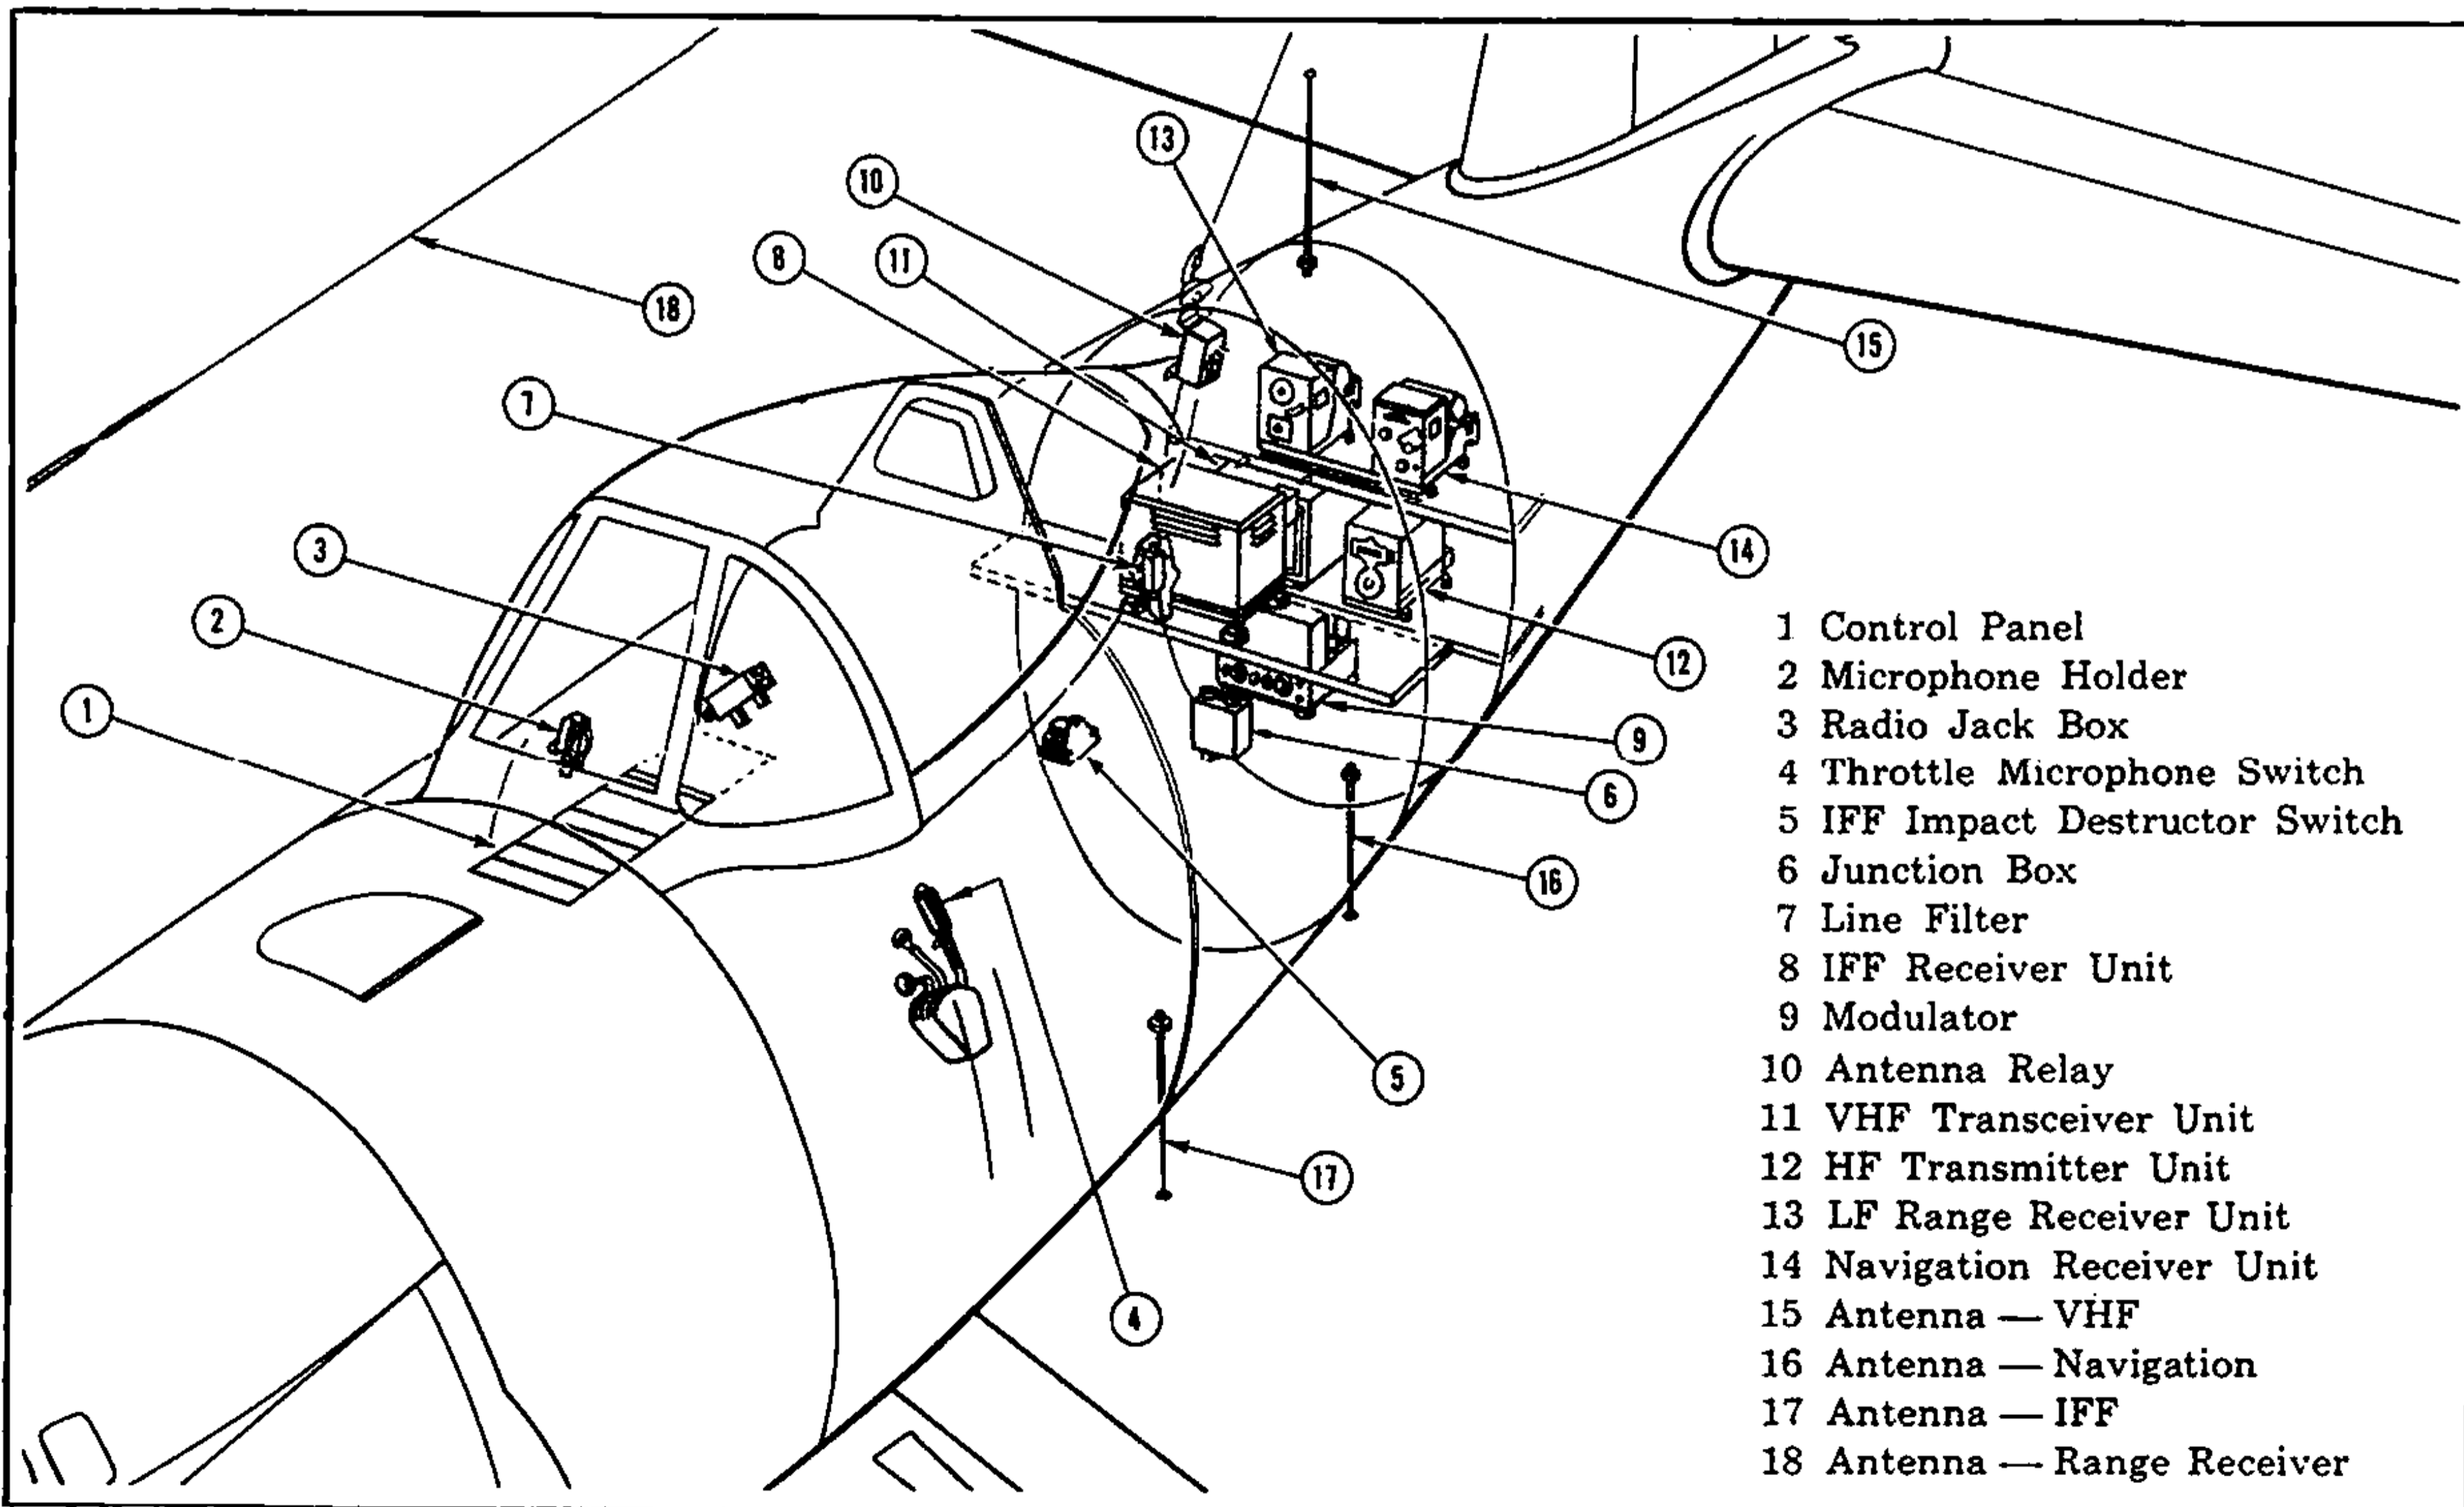

Figure 42 — Radio Installation
a. DESCRIPTION. — The F2G is equipped at the factory with five radio units mounted in the fuselage behind the auxiliary tank. (See figure 42.) Provision is made for the addition of a sixth unit should the activities of the plane be such as to require it.
(4) NAVIGATION RECEIVER (AN/R4-ARR-2A). — This receiver is designed for reception of special navigational signals of extremely high frequency. The pilot may select any of the six channels pre-tuned before flight.
(5) IFF UNIT (AN/R22-APX-1). — The controls for the IFF (Identify Friend or Foe) equipment are on the aftermost section of the radio panel. They are a G band control switch, a code channel selector, a shield for the emergency channel, a jack for testing the unit, and a shielded switch for manual detonation of the destructor cartridges in the IFF set. An inertia switch (see 5, figure 42) is connected in parallel with the manual destructor switch and insures the complete destruction of the IFF unit in the event of a crash landing in unfriendly territory. When the plane strikes the ground or other object with a force equivalent to from 10 to 13 g's, a pendulum-like mass in the inertia switch is displaced, the destructor circuit is completed, and the destructor cartridges in the IFF set are exploded.